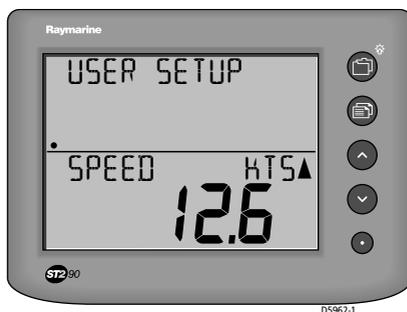

Figure 3-1: User Setup chapter heading
1. In Normal operating mode, use the  button to scroll to the User Setup chapter heading. This is shown in the active display area (in *Figure 3-1* , this is the upper area).